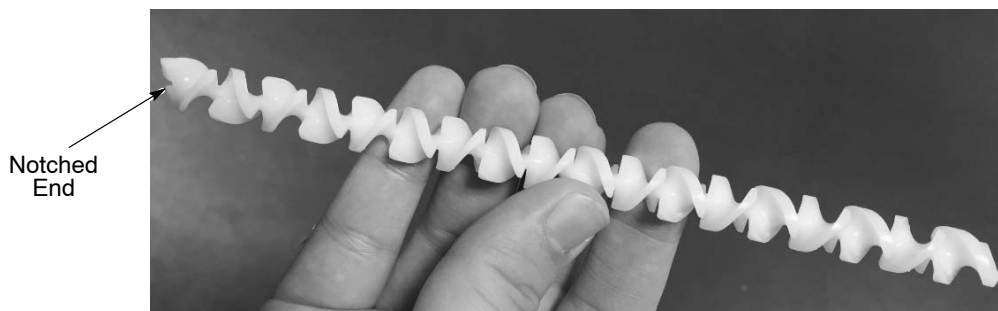

Figure 3 Static Mixer
1. See Figure 3. Link the static mixer together using the notched ends to create a long enough mixer to fill the length of the heat exchange tube.